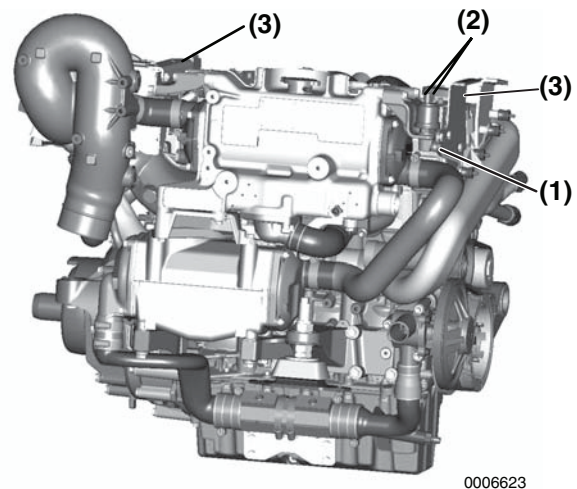

Figure 5-10
4. Remove the banjo bolt **(Figure 5-10, (1))** securing the oil pressure sender line to the front heat exchanger mount. Disconnect wires **(Figure 5-10, (2))** from oil pressure sender.
6. Remove front and rear heat exchanger mounting brackets **(Figure 5-10, (3))**.